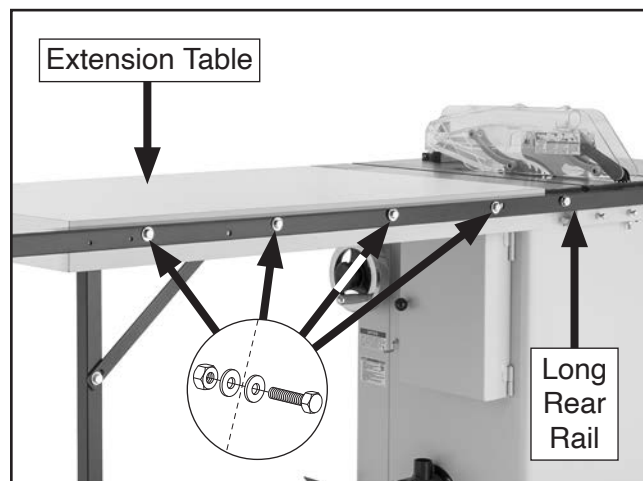

Figure 12. Extension table secured to long rear rail.
17. Thread (1) adjustable foot into bottom of each extension leg, then with help from an assistant, flip extension table upright and position it between long rails. Ensure holes in table align with holes in rails.
18. Secure extension table to long rear rail with (4) 3/8"-16 x 1 1/4" hex bolts, (8) 3/8" flat washers, and (4) 3/8"-16 hex nuts (see **Figure 12**). Hand-tighten fasteners for now.